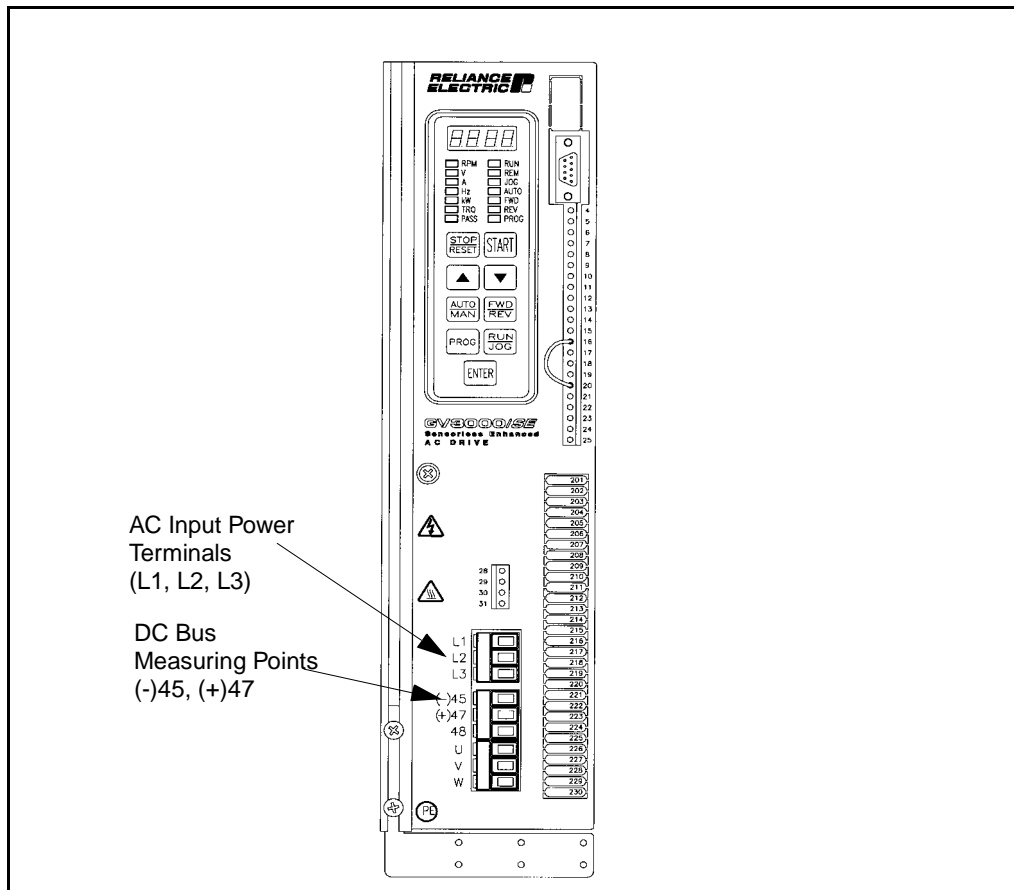

Figure 10.1 – DC Bus Voltage Terminals (2 to 15 Amp Drives)
Step 4. Use a voltmeter to verify that there is no voltage at the drive's AC input power terminals (R/L1, S/L2, T/L3). Refer to figure 10.1, 10.2, or 10.3 for the location of these terminals.
- b. Use a voltmeter to measure the DC bus potential at the DC bus power terminals ((-)45, (+)47) shown in figure 10.1, 10.2, or 10.3.